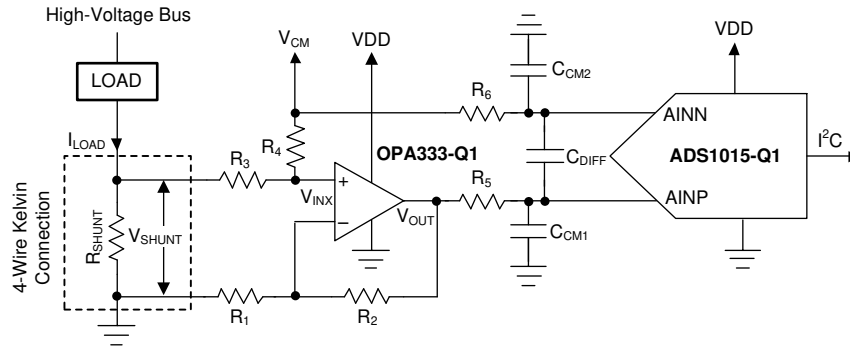

图 8-6. Low-Side Current Shunt Monitoring
Shunt-based, current-measurement solutions are widely used to monitor load currents. Low-side, current-shunt measurements are independent of the bus voltage because the shunt common-mode voltage is near ground. 图 8-6 shows an example circuit for a bidirectional, low-side, current-shunt measurement system. The load current is determined by measuring the voltage across the shunt resistor that is amplified and level-shifted by a low-drift operational amplifier, OPA333-Q1. The OPA333-Q1 output voltage is digitized with ADS1015-Q1 and sent to the microcontroller using the I2C interface. This circuit is capable of measuring bidirectional currents flowing through the shunt resistor with great accuracy and precision.
1. To level-shift the ground-referenced signal to allow bidirectional current measurements while running off a unipolar supply. The voltage across the shunt resistor,  $V_{SHUNT}$ , is level-shifted by a common-mode voltage,  $V_{CM}$ , as shown in 图 8-6. The level-shifted voltage,  $V_{INX}$ , at the noninverting input is given by 方程式 3.
A shunt resistor ( $R_{SHUNT}$ ) is an accurate resistance inserted in series with the load as described in 图 8-6. If the absolute voltage drop across the shunt,  $|V_{SHUNT}|$ , is a larger percentage of the bus voltage, the voltage drop can reduce the overall efficiency and system performance. If  $|V_{SHUNT}|$  is too low, measuring the small voltage drop requires careful design attention and proper selection of the ADC, operation amplifier, and precision resistors. Make sure that the absolute voltage at the shunt terminals does not result in violation of the input common-mode voltage range requirements of the operational amplifier. The power dissipation on the shunt resistor increases the temperature because of the current flowing through the resistor. To minimize the measurement errors resulting from variation in temperature, select a low-drift shunt resistor. To minimize the measurement gain error, select a shunt resistor with a low tolerance value. To remove the errors caused by stray ground resistance, use a four-wire Kelvin-connected shunt resistor; see 图 8-6.